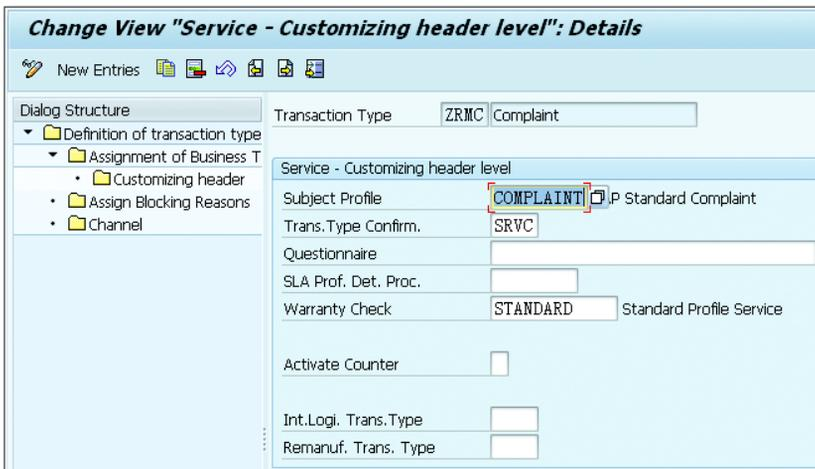

Figure 7.86 Service Header Customizing
- Figure 7.86 shows the customization screen for the header level. Add the appropriate values here as well.